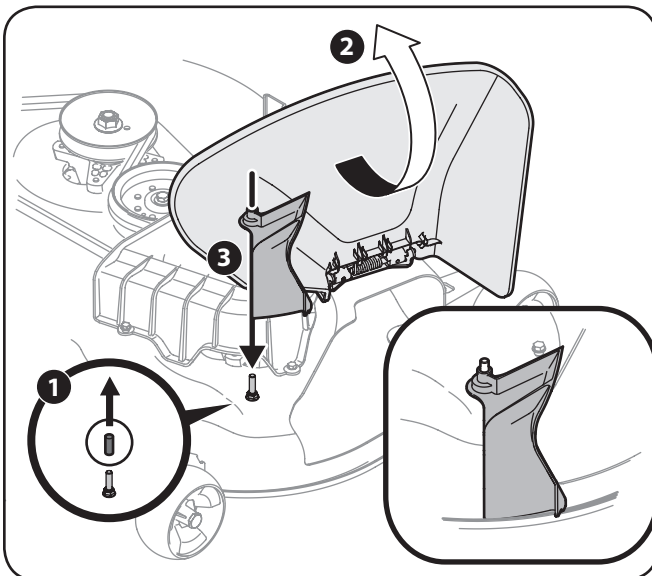

Figure 4-21
- Remove the deck pin rubber protective cap, 1 in Figure 4-21.
- Raise the chute deflector (2 in Figure 4-21) on the deck and hold it while you install the (731-10133) chute adapter (3), included in hardware pack 689-00341, onto the deck as shown in Figure 4-21.